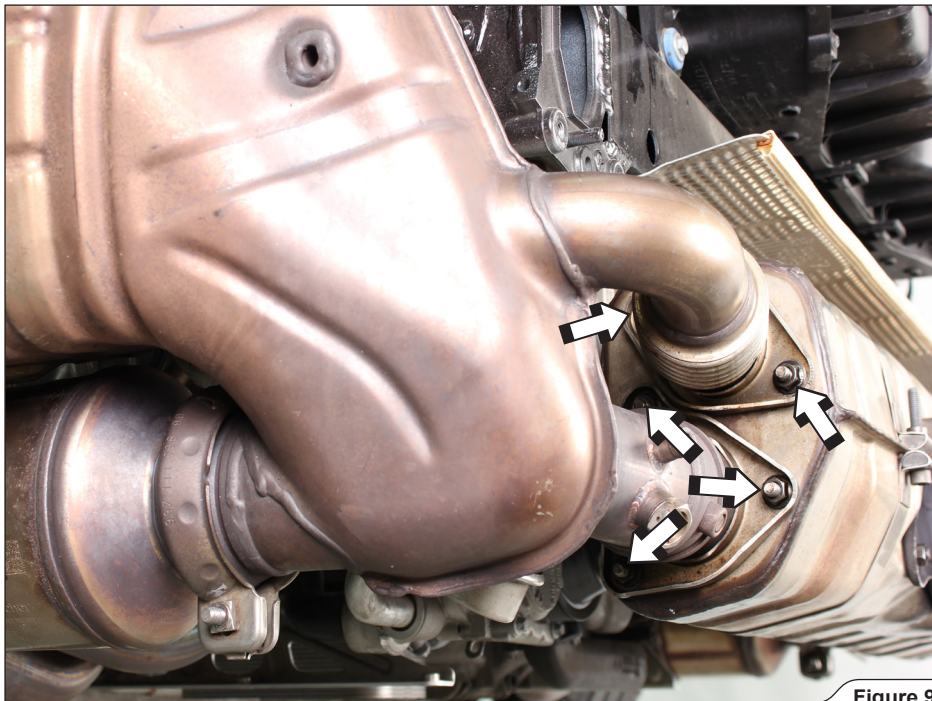

Figure 9
8. Unscrew the marked flange nuts and lambda sensors, carefully pull the vacuum hoses off the vacuum actuators, loosen and remove marked connection clamps, unscrew side-muffler's bracket bolts and carefully remove both side mufflers off the vehicle (**Figure 9, 10**).